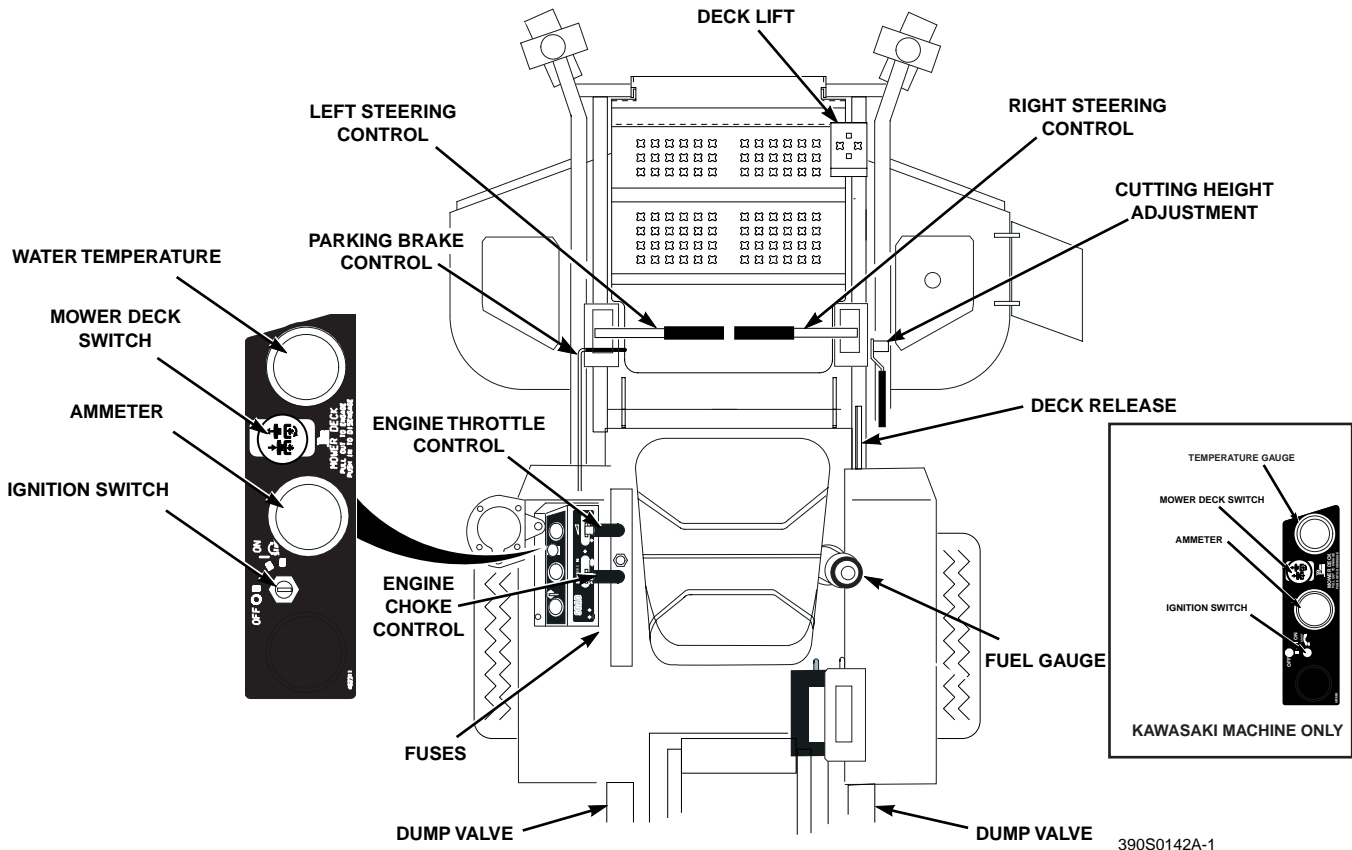

Figure 4-1 Controls and Hour Meter Instruments
- 1. Ignition Switch (Figure 4-1).** The ignition switch is used to start the engine and has three positions; OFF, ON, and START.
- 2. Mower Deck Switch (Figure 4-1).** Used to engage and disengage the mower drive system. Pulling up on the switch will engage the deck drive. Pushing down on the switch will disengage the deck drive.
- 3. Engine Choke Control (Figure 4-1).** Used to start a cold engine.
- 4. Engine Throttle Control (Figure 4-1).** Used to control the engine speed. Pushing the lever forward increases engine speed. Pulling the lever back decreases engine speed. Full back position is the IDLE position. Full forward is the cutting position.
5. **Voltmeter (Figure 4-1).** Indicates the condition of the charging system. When the engine is running, in normal operating conditions, the needle should be in the 12 to 14 volt range.
6. **Oil Pressure (Figure 4-1).** Indicates engine oil pressure. Reference the engine operator's manual for further information.
7. **Hourmeter (Figure 4-1).** Indicates the number of hours the engine has been operated. It operates whenever the engine is running. It can be used to keep track of maintenance intervals and the amount of time required to perform various tasks.
7. **Fuse Holders (Figure 4-1).** There are two 20-amp fuses and one 40-amp fuse that protect the mower's electrical system. To replace fuses, pull fuse out of the socket and install a new fuse.
8. **Left Steering Control (Figure 4-1).** Used to control the mower's left wheel when traveling forward or reverse.
10. **Right Steering Control (Figure 4-1).** Used to control the mower's right wheel when traveling forward or reverse.
11. **Parking Brake Control (Figure 4-1).** Used to engage and disengage the parking brakes. Pull the lever back to engage the parking brakes. Push the lever forward to disengage the parking brakes.
12. **Fuel Tank Gauge (Figure 4-1).** Indicates the amount of fuel in the fuel tank.
14. **Deck Lift Foot Lever (Figure 4-1).** Used to raise and lower the cutter deck.
15. **Cutting Height Adjustment (Figure 4-1).** Used to set the cutter deck at the desired cutting height.
16. **Deck Release Lever (Figure 4-1).** Used to lock the cutter deck in the transport position. Push the foot pedal forward and lift up on the release lever to release the cutter deck for normal mowing.
17. **Temperature Gauge (Figure 4-1).** Indicates the operating temperature of the engine. *Used on mowers with the Kawasaki liquid cooled engine only.*